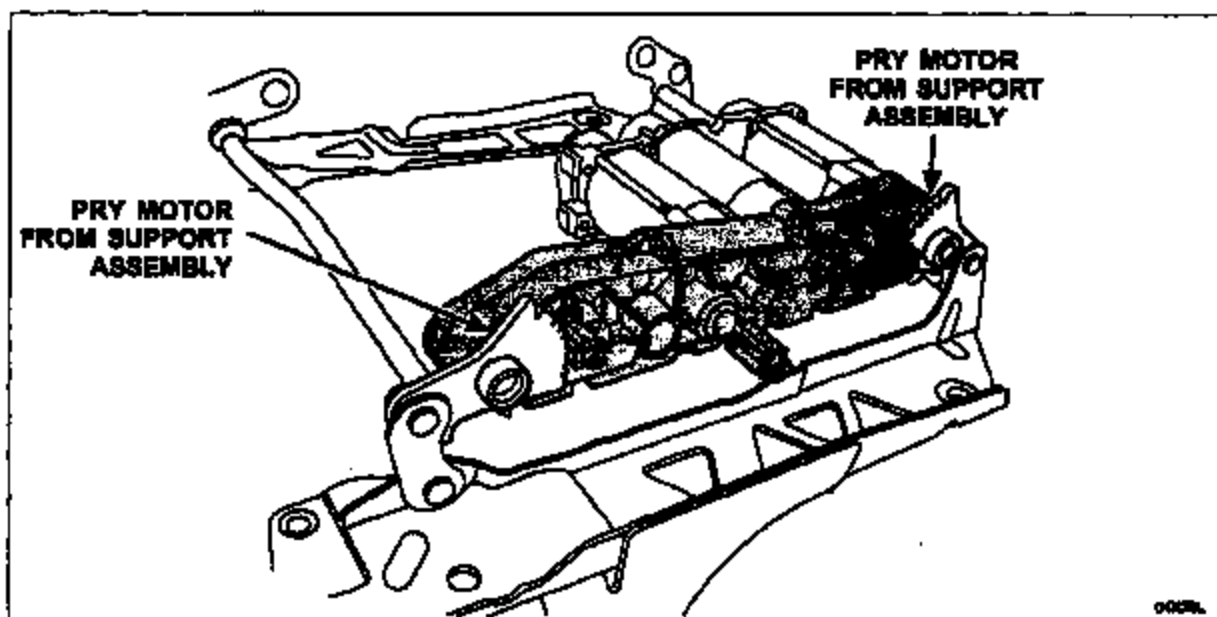

FIGURE 12
13. Pry and remove the seat track motor assembly from the upper support assembly. See Figure 12.